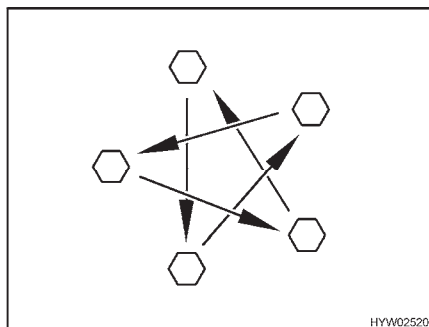

Fig. 162 Tighten the wheel nuts or wheel bolts cross-wise
- Check regularly that the wheel nuts or wheel bolts are firmly seated. Retighten the wheel nuts or wheel bolts of a changed wheel cross-wise (Fig. 162) after 50 km (30 miles).